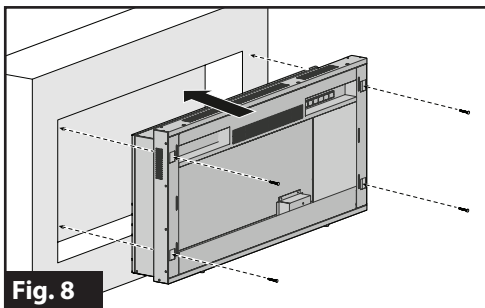

**Fig. 7**
- Lift to remove the glass cover from unit and set aside. (Fig. 7)